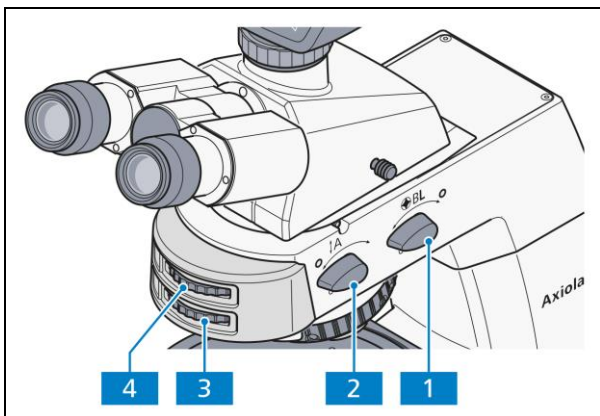

Fig. 4-11 Axiolab 5 for transmitted light conoscopy
- Swivel the analyzer into the beam path (**on** position) with rotary knob **A** (Fig. 4-11/2).
- The polarization direction can be changed using the setting wheel (Fig. 4-11/3) of the analyzer.
- Switch on Bertrand lens **BL** (Fig. 4-11/1) (**On** position). The axial figure will appear in the field of view.
- Bring the axial figure into focus using the setting wheel (Fig. 4-11/4).
(4) Evaluation